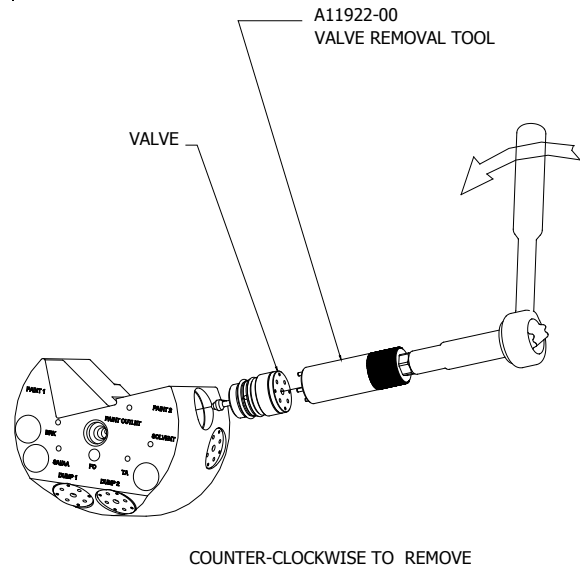

Figure 20: Valve Removal
Remove the rear manifold from the applicator (see "Spray Applicator Disassembly" in the "Maintenance" section). Inspect the valve weep ports on the manifold body for leaks or contamination. If any paint is visible in these areas, the valves need to be replaced as shown in Figures 20 and 21.
To replace the valves, use the valve removal tool (A11922-00). First, engage the four (4) pins on the tool to the corresponding four (4) hole pattern in the top of the valve. Using a 1/2" (13mm) socket, end-wrench, or adjustable wrench, remove the valve by turning counter-clockwise, as shown in Figure 20.